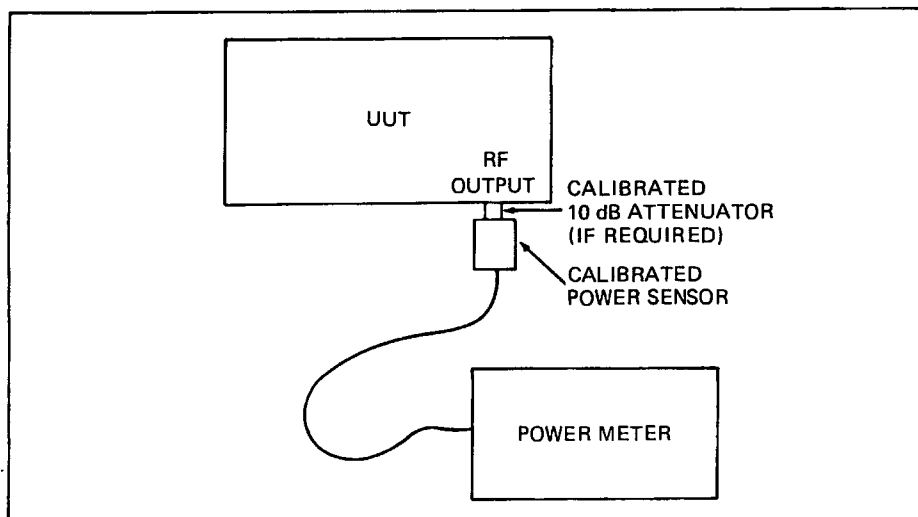

Figure 5-8. RF Output Level Check - Power Meter
- a. Disconnect the RF Voltmeter and connect the equipment as shown in Figure 5-8.